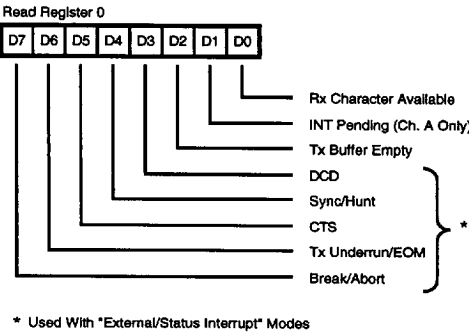

Figure 18a. SIO Read Register 0
**Read Registers.** The SIO Channel B contains three read registers while Channel A contains only two that are read to obtain status information. To read the contents of a register (rather than RRO), the program must first write a pointer to WR0 in exactly the same manner as a write operation. The next I/O read cycle will place the contents of the selected read registers onto the data bus (Figure 18a, b, c).